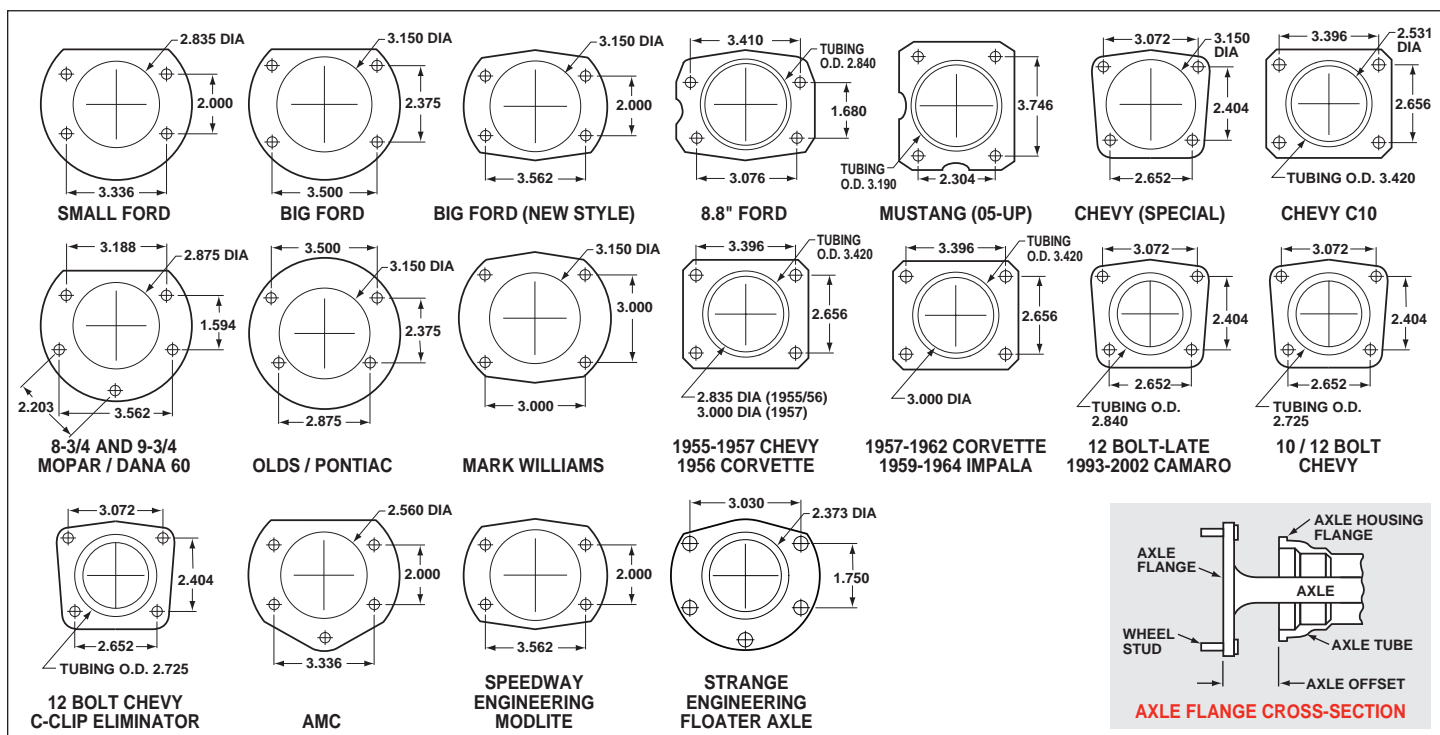

Figure 8. Rear Housing Flange Chart and Axle Flange / Offset Cross-Section
• Make sure this is the correct kit to fit the axle housing flange, not necessarily the rear end make. Many times aftermarket manufacturers put a different make of axle housing flange on the stock rear end housing (Figure 8). Example; Big Ford rear ends with Olds-Pontiac flanges, therefore, an Olds-Pontiac rear disc brake kit would be the correct kit to order. Also, shock clearance may be a problem. They may have to be modified and/or relocated to clear the Wilwood kit after final assembly.
- Dimension from wheel side of axle flange to wheel side of axle housing flange (see Figure 8, lower right hand corner). This dimension is critical to ensure proper alignment of the rotor to the caliper, and should match offset given in the kit description.